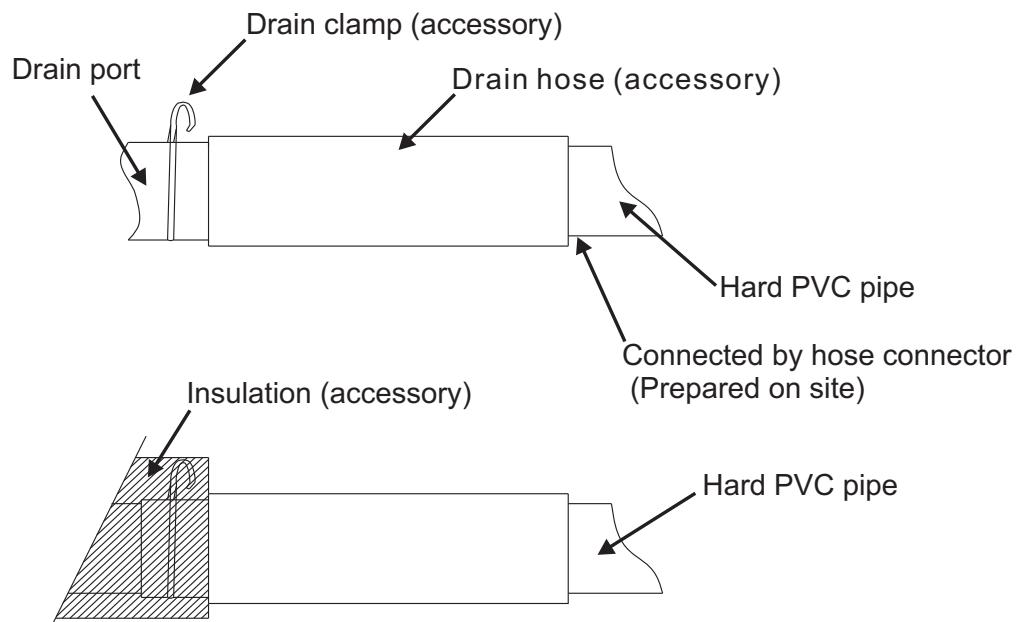

Fig.12
3. Insert the drain hose until it connects the drain port very well, and then secure it tightly with the hose clamp(Accessory)( Fig.12)
4. After checking the drainage, wrap the drain hose with the insulation and clamps (Accessory). ( Fig.12)